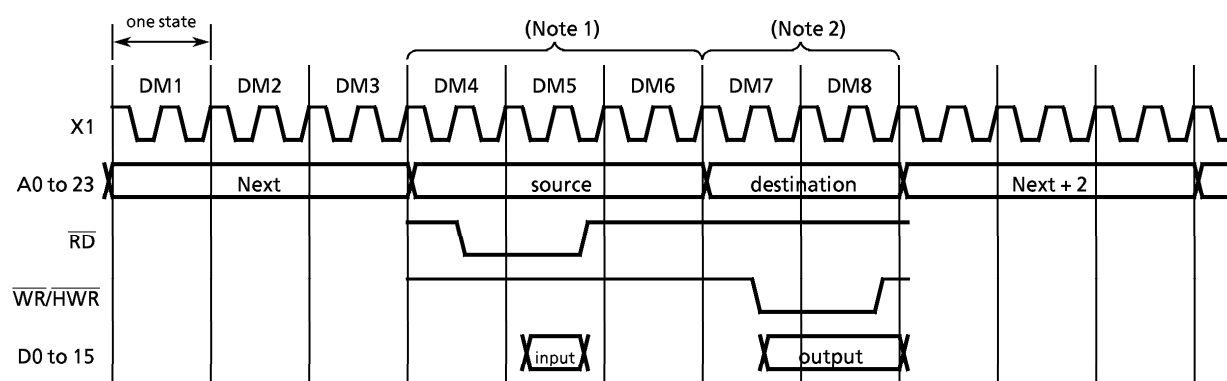

Figure 3.3.2 (1) Micro DMA Cycle Diagram
Figure 3.3.2 (1) shows the micro DMA cycle for 1-word transfer in transfer destination address INC mode (the same apart from counter mode). (The conditions for this cycle are based on a 16-bit bus, 0 waits, and transfer source / transfer destination addresses both even-numbered values.)